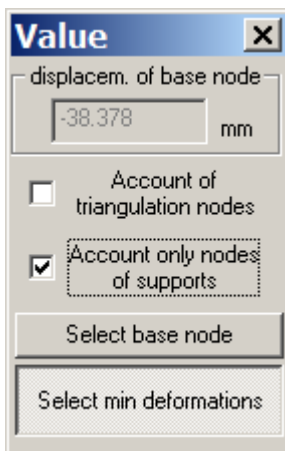

Figure 2.4.1. **Value** dialog box
- ⇒ In the **Value** dialog box (see Fig.2.4.1), define the following parameters: